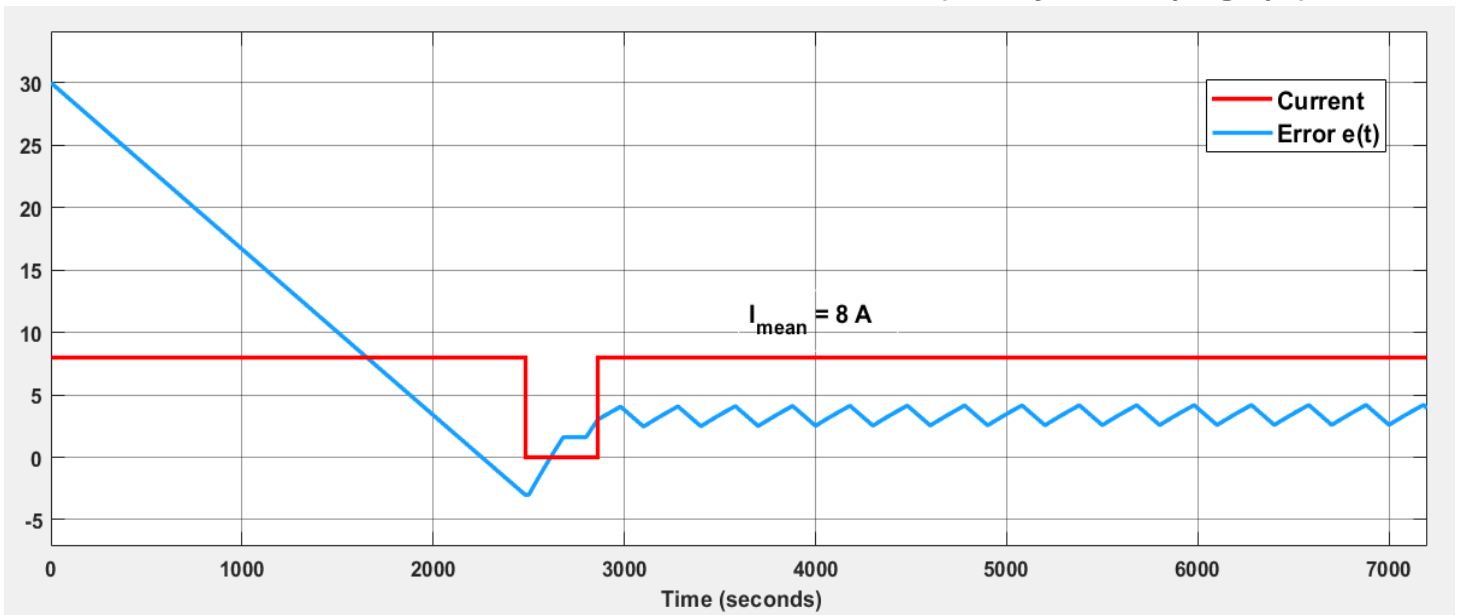

Fig 2: Current and error v/s Time Plot
2. Plot vs time the following graphs (keep the simulation time for 7200 seconds. Part b) and c) are to be plotted in the same graph with different colours. Use dash line if there is overlapping of two parameters. You can refer the figure 2 for better clarity. Keep the scale of time axis as mentioned and paste all the graphs of a particular case in one page.